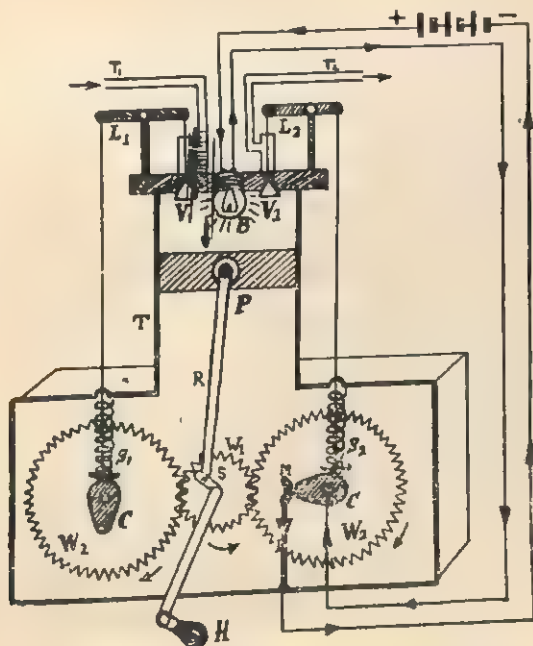

Fig. 14.2. Model of an Internal Combustion Engine.
**Apparatus.** A wooden box, three toothed wheels such that the diameters of  $W_2$  and  $W_2$  are equal and that of  $W_1$  is half of the diameter of  $W_2$ , a crank and shaft arrangement,  $S$ , a piston  $P$  fitted in a tube, a bulb of 6 volts, a battery of 6 volts and other accessories as indicated in the diagram of Fig. 14.2.
**Assembly.** (1) Fix the three toothed wheels ( $W_1$ ,  $W_2$ , and  $W_2$ ) such that their centres are on the same line and their teeth are interlocked properly as shown in Fig. 14.2. Join the crank and shaft arrangement ( $S$ ) to the piston ( $P$ ) with a metal rod ( $R$ ). Attach two coils ( $C$ ) to the wheels  $W_2$  and  $W_2$ .
(2) A wooden cap is fitted on the upper end of the tube ( $T$ ) containing the piston ( $P$ ). This cap contains two valves ( $V_1$ ) and  $V_2$  and a bulb ( $B$ ) whose electrical connections also are shown in Fig. 14.2. This bulb ( $B$ ) represents the spark plug of a petrol engine. The two valves ( $V_1$ ) and ( $V_2$ ) are operated by the levers ( $L_1$ ) and ( $L_2$ ) which are controlled by rods - resting on the calm ( $C$ ) and ( $C$ ) with the help of springs ( $S_1$ ) and ( $S_2$ ).
(3) The stage shown in the diagram of Fig. 14.2 represents the *power stroke* i.e. when the bulb glows. The bulb glows only when the calm of the right hand wheel  $W_2$  makes contact with the metal strip ( $M$ ).
(4) The diameters of the wheels  $W_2$  and  $W_2$  are equal and twice the diameter of the wheel  $W_1$  so that  $W_2$  and  $W_2$  complete only one rotation while  $W_1$  completes two rotations. The relative direction in which the three wheels rotate is indicated by arrows.
(5) The tubes  $T_1$  and  $T_2$  represent the carburettor and the exhaust respectively.